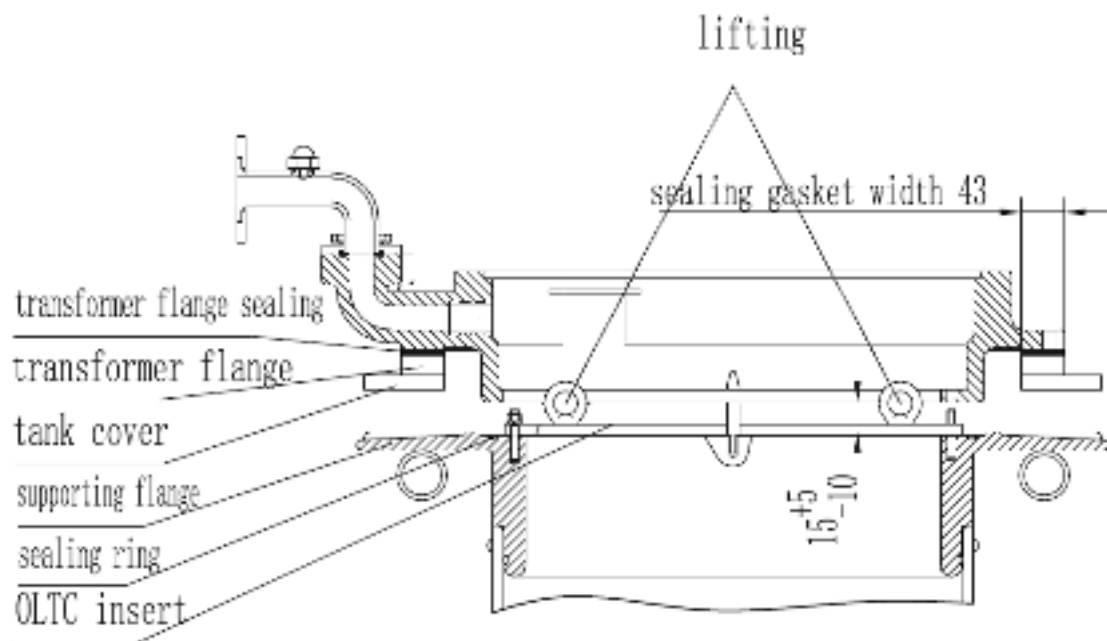

Figure 4.2.5
4. Mount the on-load tap-changer onto the head mounting flange. Use lifting equipment to gently lift the on-load tap-changer body (and insert) upwards from the 2 lifting bolts so that the oil compartment bolts (16 sets of M8 nuts and washers) can be screwed in. Tighten these nuts evenly. (Figure 4.2.5)